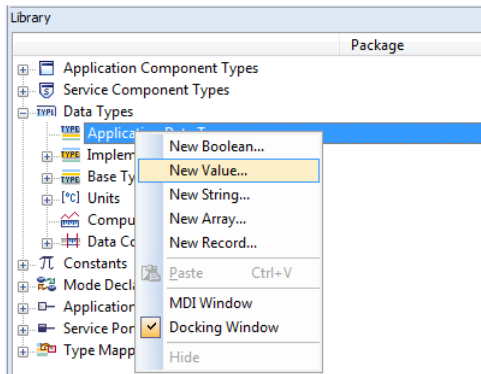

Figure 4-1 New Value application data type
- > Right click on the “Application Data Types” library is done and “Value” is selected (see Figure 4-1).
- > The application data type attributes are filled (see Figure 4-1):